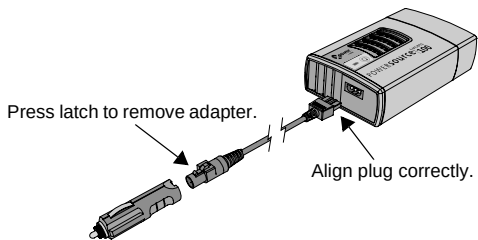

Figure 3 Connecting the adapter and DC input cable
1. If using the PowerSource Mobile 100 in a vehicle, attach the vehicle power outlet adapter to the DC input cable. See Figure 3 on page 13.
2. Plug the DC input cable into the AC/DC input port on the PowerSource Mobile 100. Align the plug and port correctly. See Figure 3.
2. If necessary, attach the vehicle power outlet adapter to the DC input cable. See Figure 3 on page 13.
3. Plug the DC input cable into the AC/DC input port on the PowerSource Mobile 100. Align the plug and port correctly. See Figure 3.